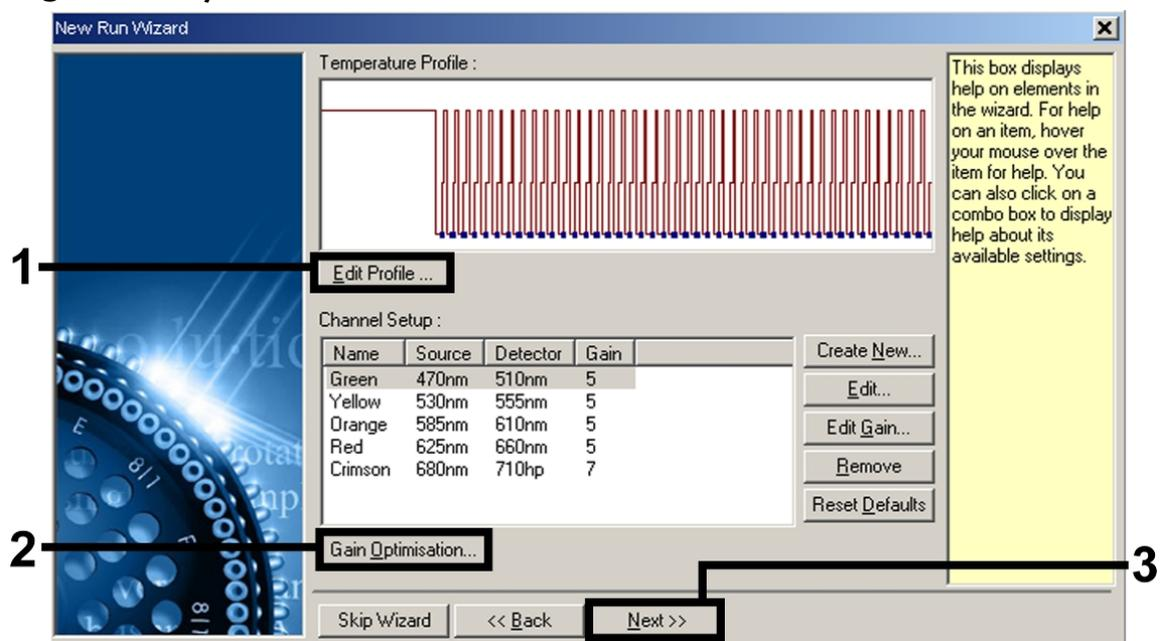

Figure 6. Editing the profile.
8. Click the "Edit Profile" button in the next "New Run Wizard" dialog box (Figure 6), and program the temperature profile as shown in Figures 6–8).
9. The detection range of the fluorescence channels has to be determined according to the fluorescence intensities in the PCR tubes. Click "Gain Optimisation" in the "New Run Wizard" dialog box (see Figure 6) to open the "Auto-Gain Optimisation Setup" dialog box. Set the calibration temperature to 55 to match the annealing temperature of the amplification program (Figure 9).